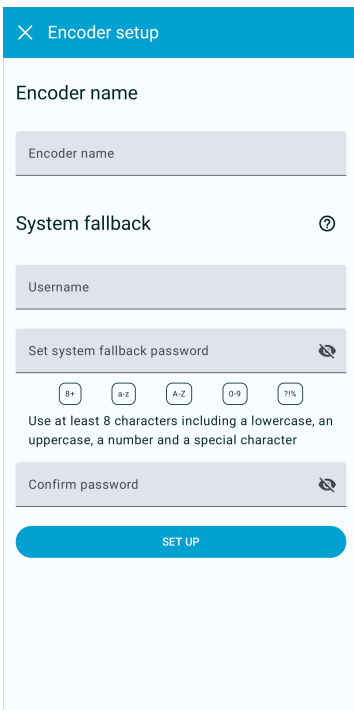

Figure 22
1. Figure 22:
4. When connecting the encoder to another system, follow either 2.1 (if DHCP is applicable) or 2.2 (if static IP address is applicable). After that, a screen as in Figure 27 will be shown instead of Figure 22. To set up the encoder so it gets the same system key as the Android device, click **Set up the encoder**. The screen shown in Figure 22 will then be shown; follow the procedure described in 2.3.